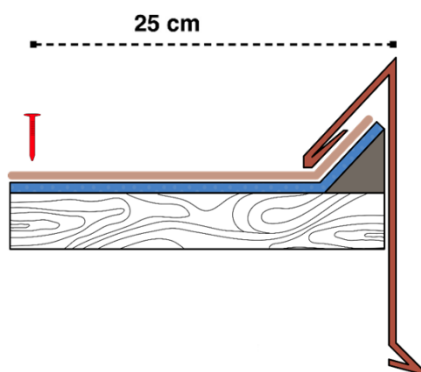

Fig. 5 – Lateral flashing detail with triangular wooden batten
- Alternatively, fix a triangular-section batten along the lateral edge of the roof, before the membranes/underlay. Position the membrane/underlay above the triangular batten and lay the shingle on top, cutting it at the vertex of the batten. Once the pitch is completed, apply a perimeter metal flashing over the shingles. - Fig. 5.